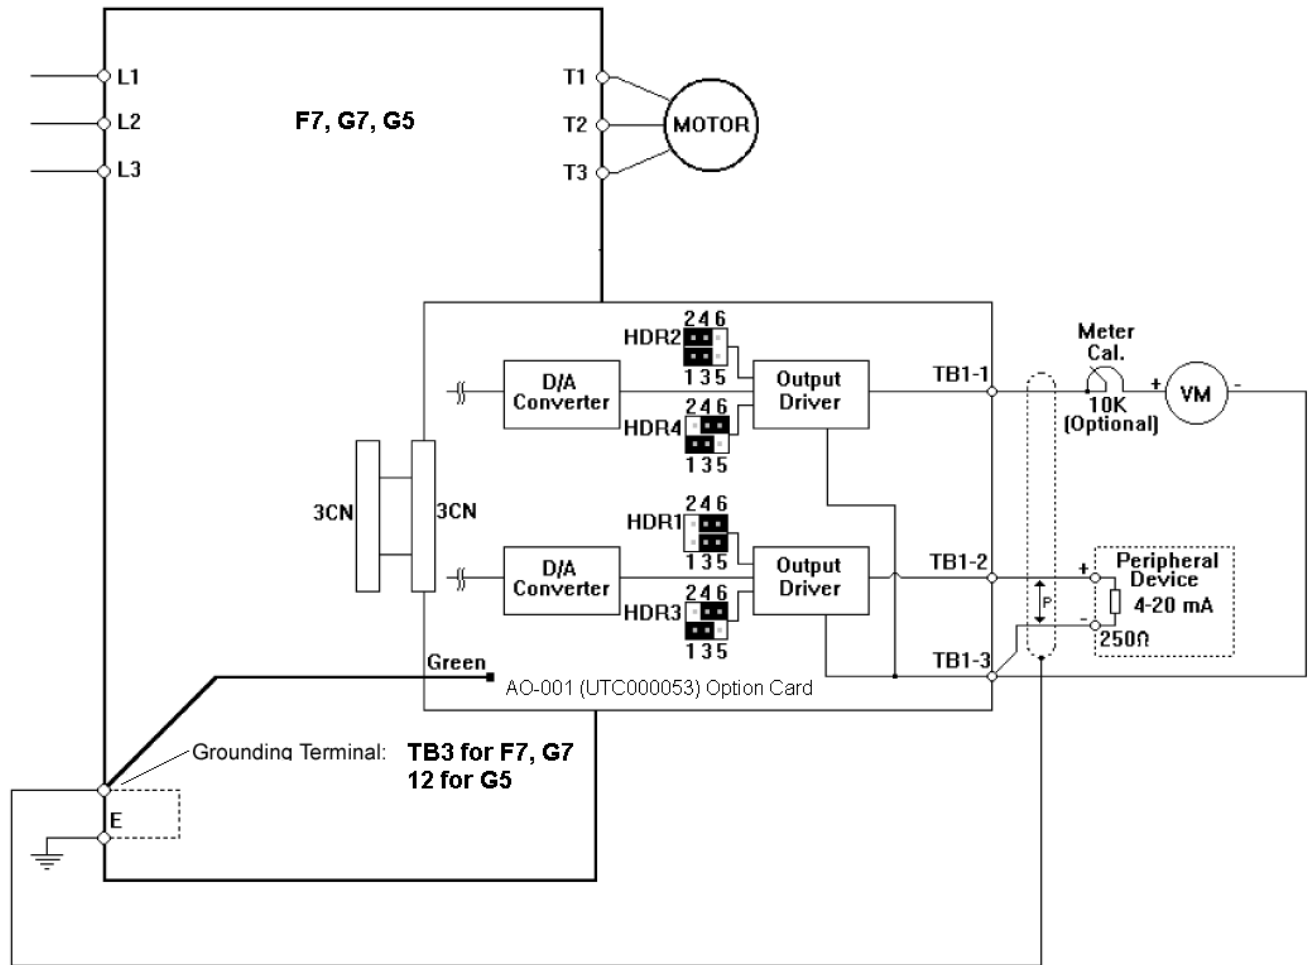

Figure 3. AO-001 Interconnection Diagram
6. **Wiring.** Refer to Figure 3 and Table 2. Make wire connections between the AO-001 card and the drive's control circuit, as well as external monitoring circuits. Observe the following:
7. **Adjustment:** The type of output the AO-001 option card will produce is selected with several jumpers and parameters. Refer to Tables 3 and 4 and Figure 3 to select the appropriate output type and scaling. Note: The variable resistors VR1 thru VR4 are factory set and require no further adjustment.